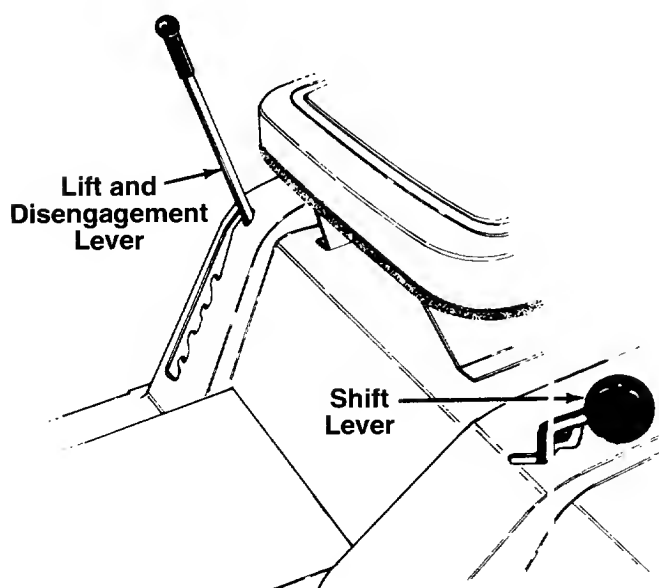

FIGURE 7.
The shift lever is located on the left fender and has three positions, FORWARD, NEUTRAL and REVERSE. See figure 7. The clutch-brake pedal must be depressed and the lawn tractor must not be moving when shifting gears. Do not force the shift lever. Release the clutch-brake pedal slightly to line up the shifting collar in the transmission. Then try to shift gears.
The lift and disengagement lever is used to raise and lower the cutting deck which determines the cutting height. Pulling it all the way back and locking it disengages the blades. The lift and disengagement lever must be in the disengaged position when starting the engine, when shifting into reverse or if the operator leaves the seat. See figure 7.
2. Place the lift and disengagement lever in the DISENGAGED position. See figure 7.